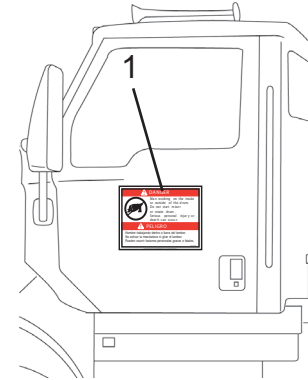

Figure 11
8. Remove magnetic “DANGER” signs (Figure 11, Item 1) from both doors.